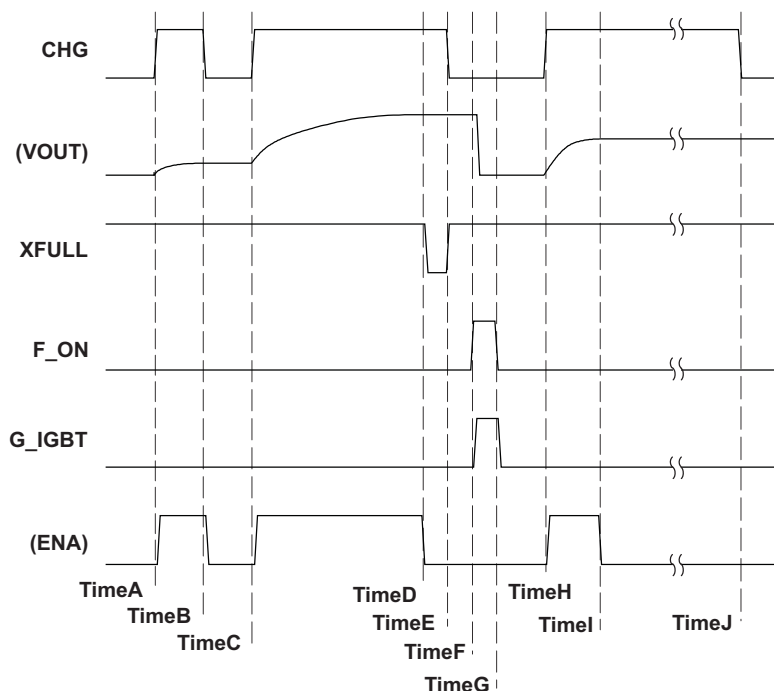

Figure 4. Whole Operation Sequence Chart
The only way to *start* charging is to input $\text{CHG}\uparrow$ (see time A/C/H in Figure 4). Each time $\text{CHG}\uparrow$ is applied, the TPS65561 starts charging.
1. Forced *stop* by inputting $\text{CHG} = \text{L}$ from the controller (see timeB in Figure 4).
2. Automatic *stop* by detecting a full charge. VOUT reaches the target value (see TimeD in Figure 4).
3. Protected *stop* by detecting an over current function (OV_{DS}) trigger at SW pin (see TimeI in Figure 4).
The device starts charging at *timeH*, and OV_{DS} protection occurs at *TimeI* (see Figure 4). At *TimeI*, XFULL stays high. At *TimeJ*, the controller detects OV_{DS} protection through the expiration of a timer and then sets CHG to low to terminate the operation.
The TPS65561 provides an overvoltage monitor function of the SW pin. The TPS65561 is latched off if the voltage on the SW pin is above OV_{DS} during the switch ON time (see Figure 4 and its descriptions).